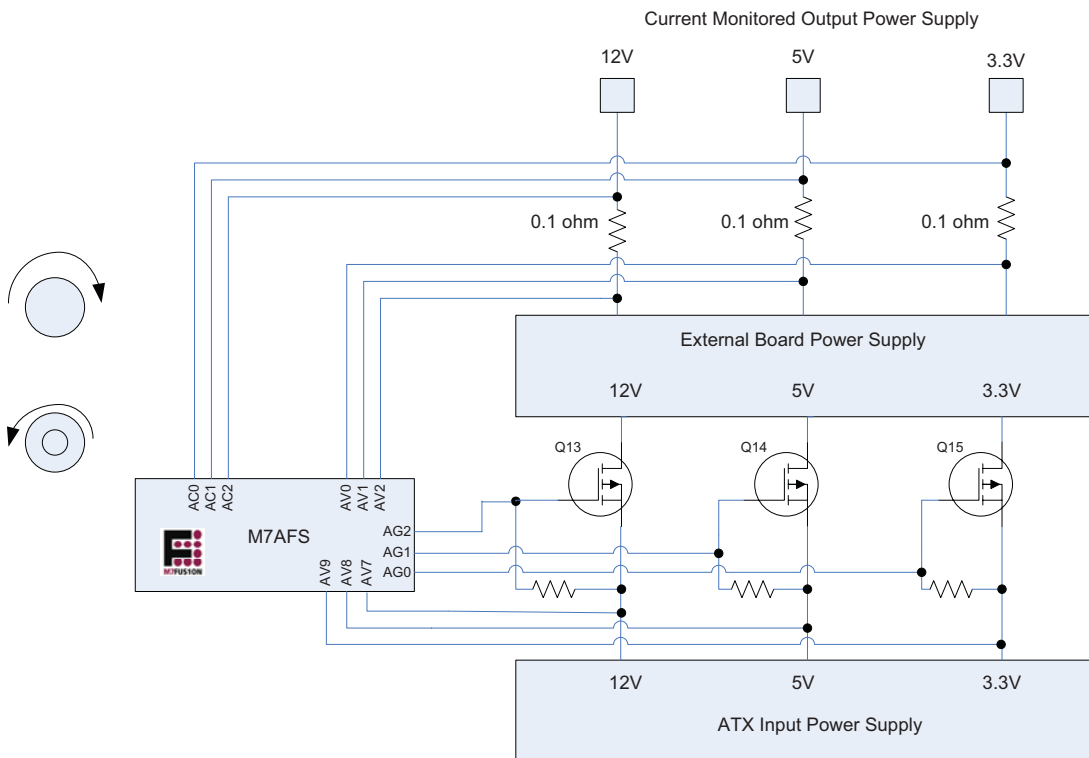

Figure 2-8. M7AFS600-FG484 Functional Description
The ATX connections demonstrate the analog function features of the M7AFS600-FG484 device. The functional description and pin out information is shown in Figure 2-8. All supplies on the ATX power supply can support a maximum of 10 A.
All input voltages (12 V, 5 V, 3.3 V) are monitored through the AV pads on the M7AFS600-FG484 device (Figure 2-8 on page 21). The input voltage goes to a P-Type Power MOSFET (FDS7079ZN3). All three voltages can be switched On/Off using the gate driver (AG) controlling the FET.